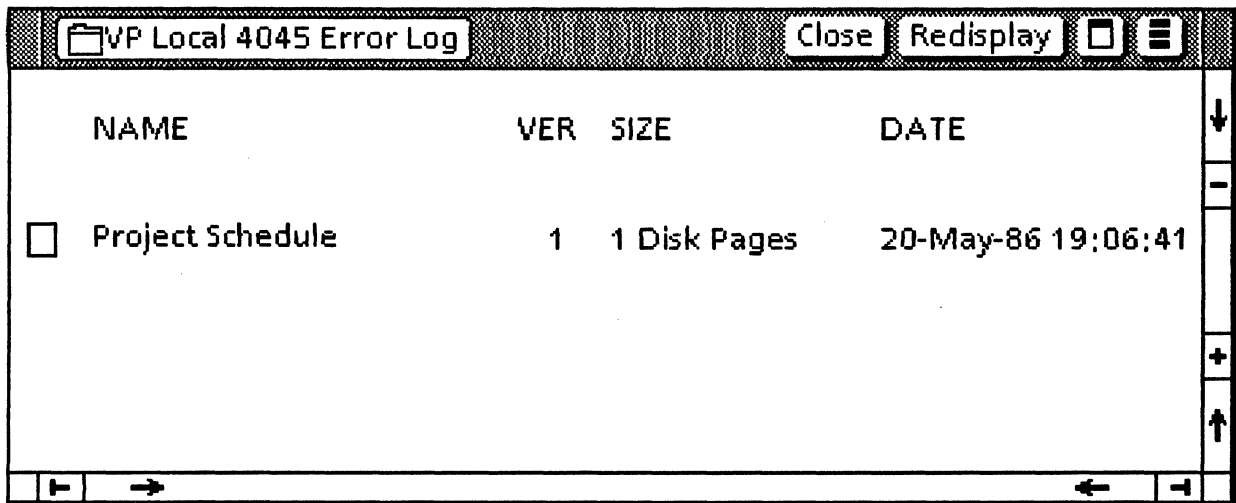

Figure 5-9 Error log window
1. Select the Error log folder and press <OPEN>. The error log is displayed (Figure 5-9). Select the document in the error log window and press <OPEN>. Note the description of the error.